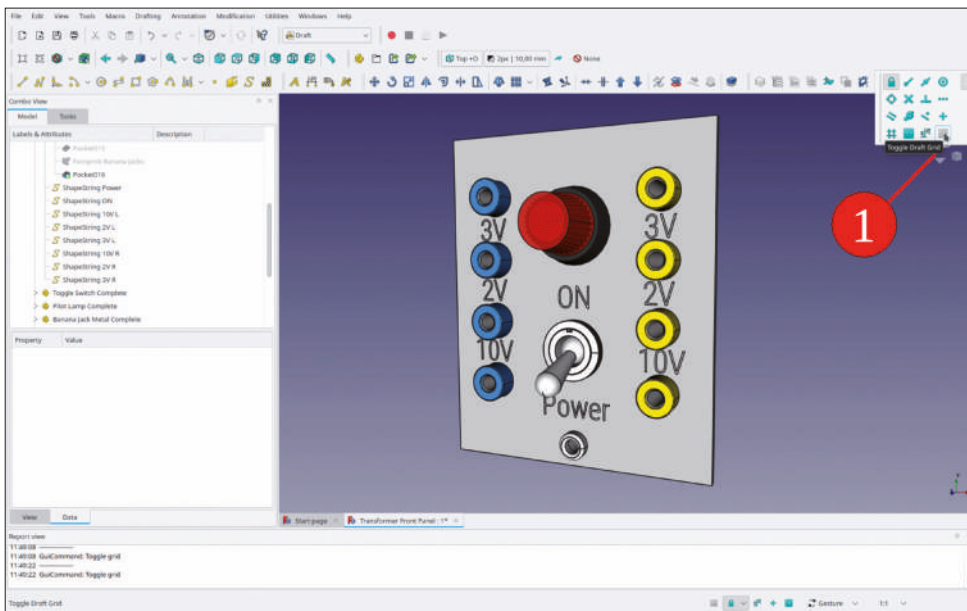

Figure 9-38
7. The result of this labeling work is shown in Figure 3-37. Switch off the drafting grid with the 'Toggle draft grid' tool button (Figure 9-38). Save your work.